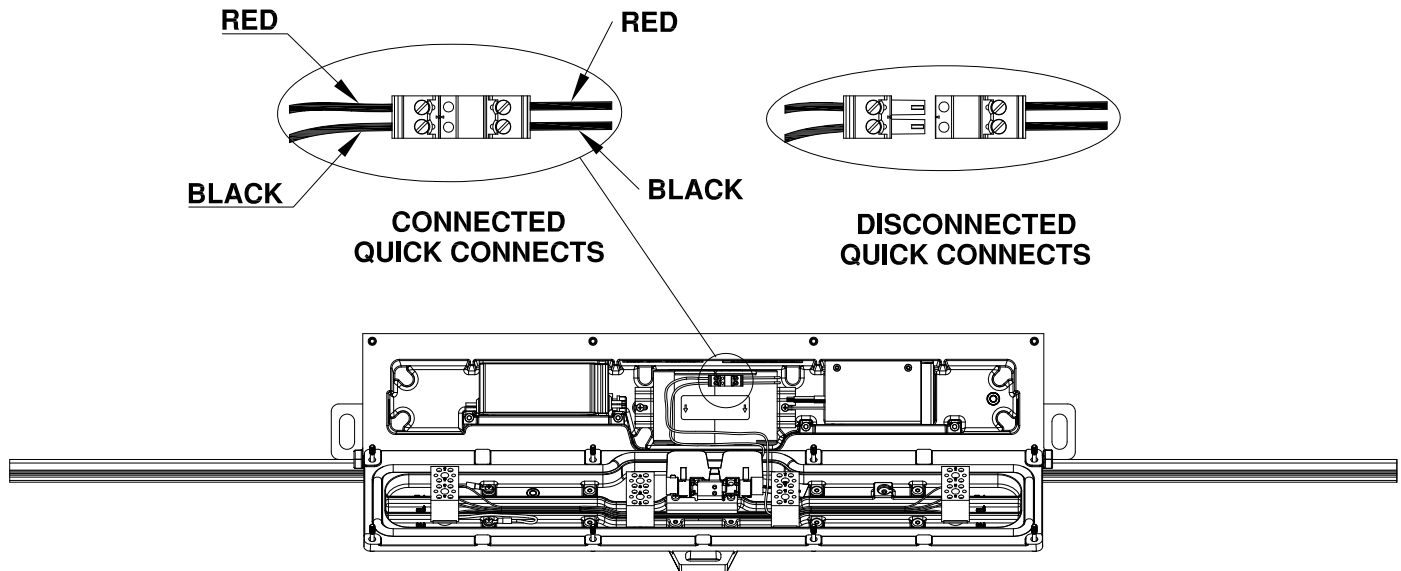

FIGURE 15: LUMINAIRE VIEWS (DISCONNECTION METHOD)
- a. Disengage “Battery Pack Quick Connect.” For reference, see the image below (Figure 15).
- b. Wait for five (5) seconds.
- c. Reconnect the “Battery Pack Quick Connect.” For reference, see the image below (Figure 15).